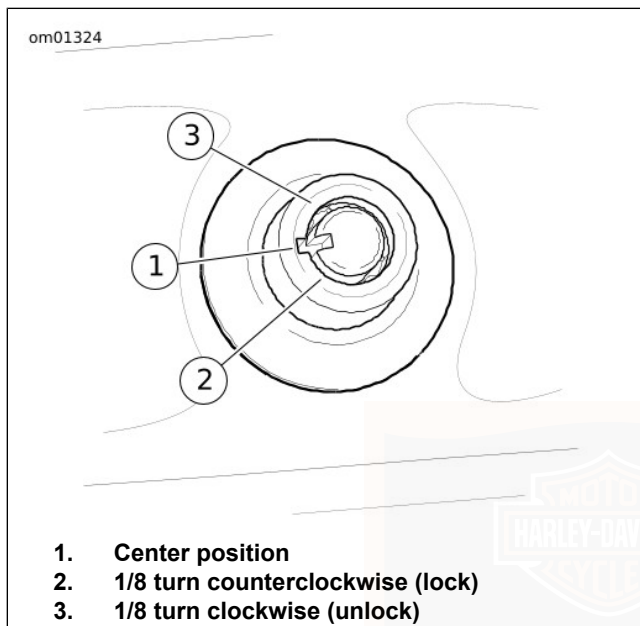

Figure 50. Trunk Lock
1. See Figure 50. To unlock trunk, insert key into barrel lock and turn one-eighth turn clockwise. Return key to center position and remove.